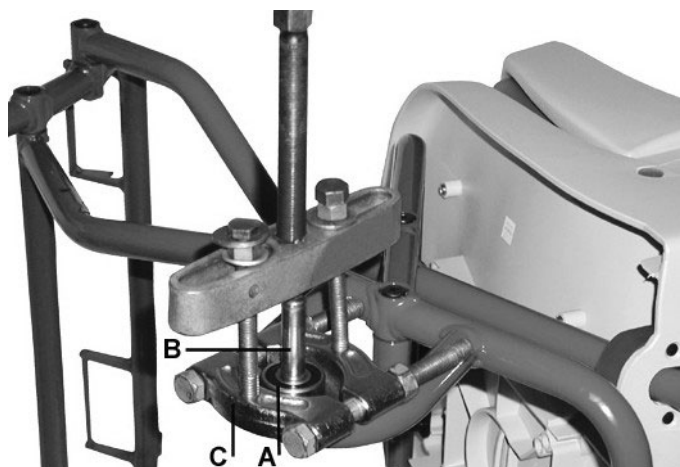

Figure 38
1. Remove old End Cap (37-C) using a screwdriver. Remove old Circlip (37-B) and Wheel. If needed use an extractor to remove the bearing from the Axle (Figure 38)